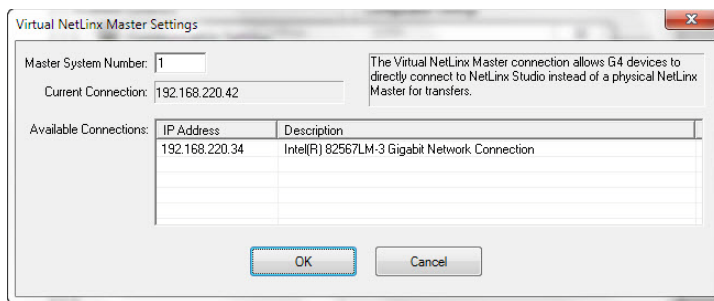

FIG. 28 Virtual NetLinx Master Settings
5. Click the **Edit Settings** button on the *Communications Settings* dialog to open the *Virtual NetLinx Master Settings* dialog (FIG. 28).